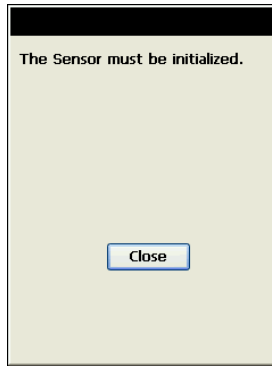

Figure A-7. Initialize Sensor after Resection
10. After the resection (Figure A-7), initialize the sensor. See “Sensor Initialization” on page 6-10 for details.